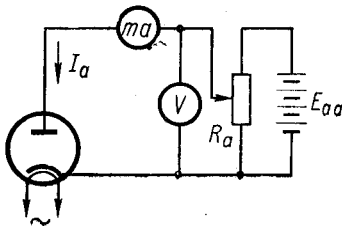

Fig. 1. Circuit arrangement for determination of the characteristics of a diode
2. The diode the characteristic of which is to be determined is connected in circuit in the manner shown in Fig. 1. Heating voltage and heating current are kept constant while the tube characteristic is being obtained. Plate current is being increased by steps by adjusting the variable resistor R_a connected in the same way as a potential divider. The anode current and voltage are indicated.